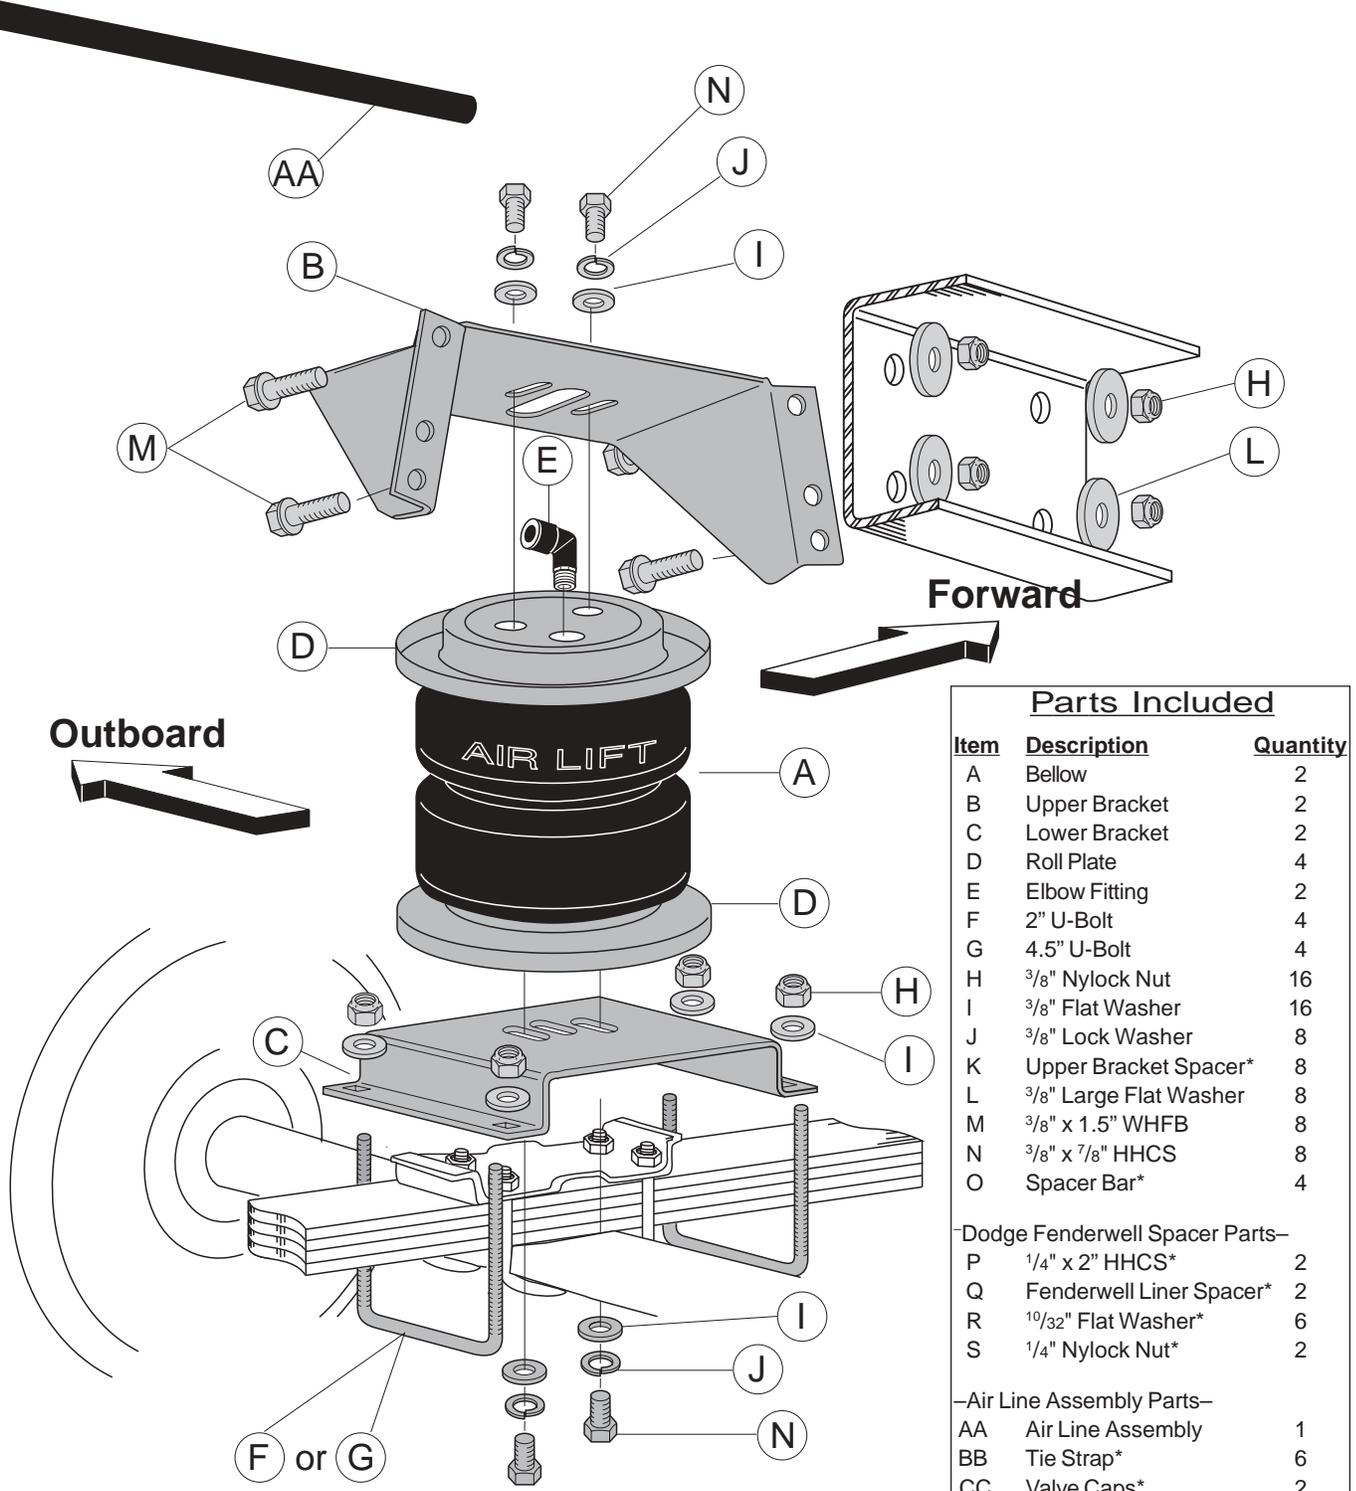

Figure 1
(*not shown in Figure 1)
1. Set a roll plate (D) on both ends of the air spring (A). The radiused (rounded) edge of the roll plate will be towards the air spring so that the air spring is seated in both roll plates (Figure 1).
2. Install a 90° swivel air fitting (E) finger tight plus 1½" turns (Figure 1). Do not overtighten.
3. Place the upper bracket (B) onto the top of the bellow and roll plate with the legs facing down.
4. Set the air spring on the lower bracket (C) aligning the two holes in the base of the air spring with the two outer slots in the top of the lower bracket (Figure 1).
5. Loosely attach the upper bracket to the assembly using flat washers (I), lock washers (J), and hex head bolts (N). Remember that the legs face down (Figure 1).
6. Loosely attach the lower bracket to the assembly using flat washers (I), lock washers (J), and hex head bolts (N). See Figure 1.
1. If the spacer is not used, attach the lower bracket securely using the provided U-Bolts (G), flat washers (I), and lock nuts (H). See Figures 1 and 8.